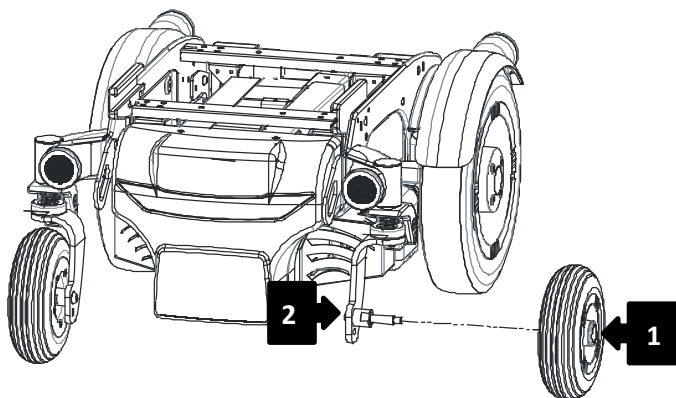

Figure 50
Disassemble the castor unscrewing the bolt shown in Figure 50 by locking the nut (1) with an open-end wrench of 13 mm and unscrew the bolt (2) with an allen wrench of 6 mm.